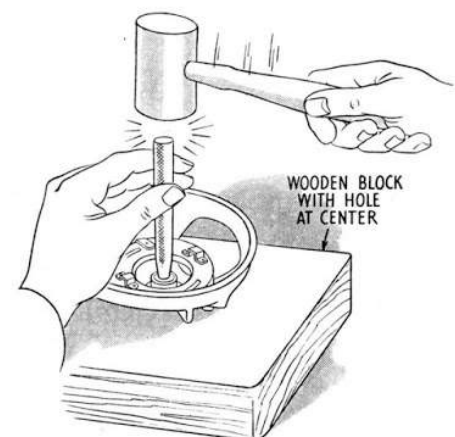

FIG. 114—Punching out the metal and felt oil discs from motor head casting
7. With a punch, drive the metal and felt *oil discs* from the motor head casting. Figure 114.